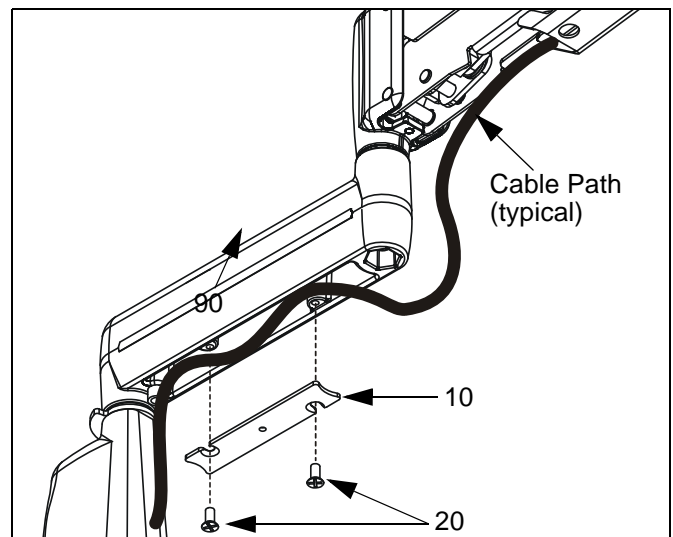

Figure 22: Static Arm - Cable Path
5. Carefully insert cables in cavity located in lower portion of mount arm (See Figure 22).
6. Using Phillips screwdriver, install cover (10) with two screws (20).